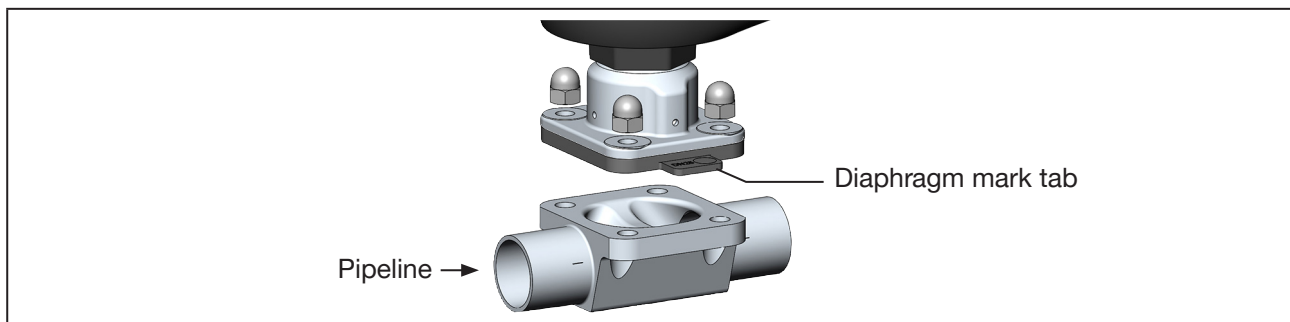

Fig. 24: Aligning the diaphragm (example 2-way body)
- Align diaphragm. The mark tab of the diaphragm must protrude from the valve body at a right angle to the longitudinal axis of the pipeline (see “Fig. 24”).
- Before installing the actuator, check whether the diaphragm is free of damage and correctly aligned. The mark tab of the diaphragm must protrude from the valve body at a right angle to the longitudinal axis of the pipeline (see “Fig. 24”).